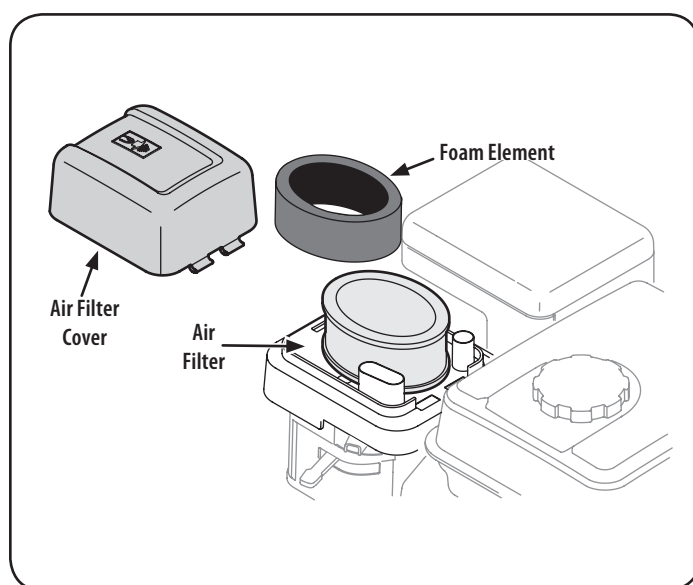

Figure 24
1. Press the tab on the air filter cover, lift the cover and remove the air filter. See Figure 24.